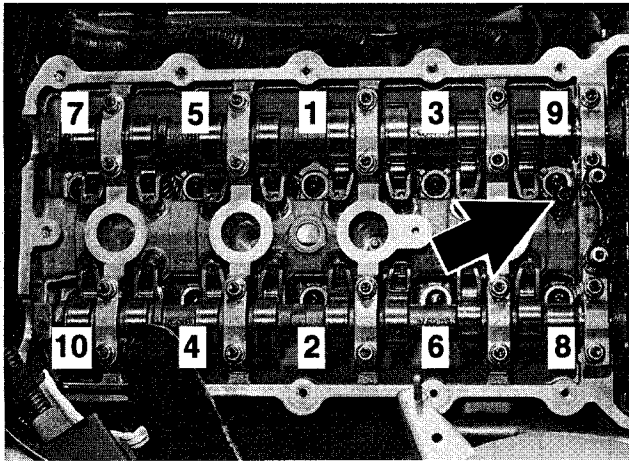

Fig. 17. Cylinder head bolt tightening sequence for 4-cylinder engines. Note oil supply tube seal (arrow) on M44 engine.
- Tighten cylinder head bolts in correct sequence. See Fig. 17.
On M44 engines, replace seal for oil supply tube. See Fig. 17.)